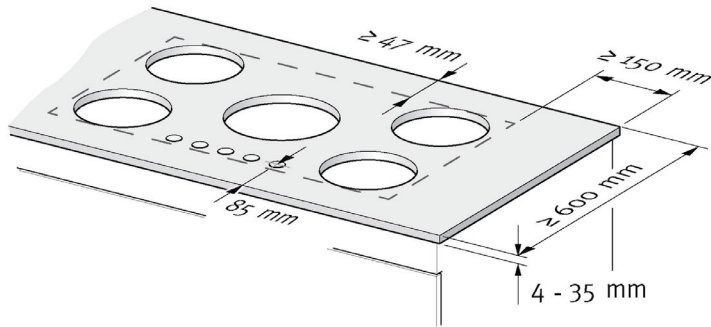

fig. 1
- The necessary precautions should always be taken before installing the induction hob (Fig. 1, 2 and 5).